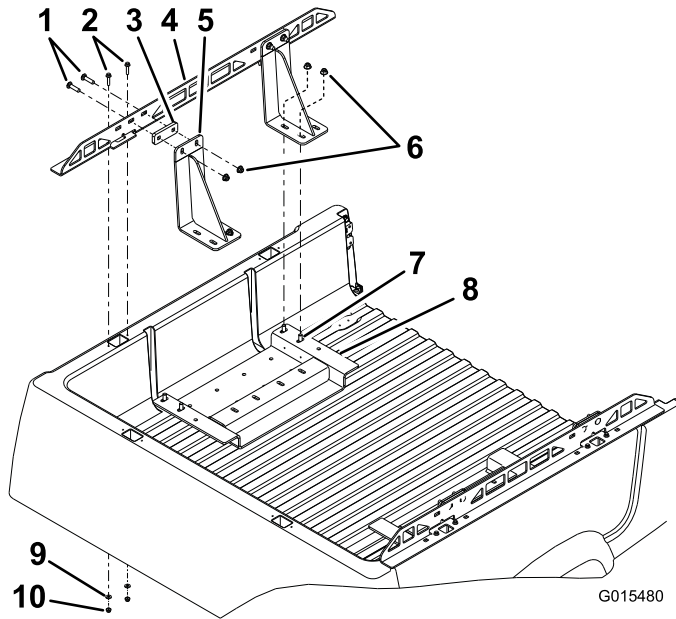

Figure 4
- For mid-duty vehicles 2011 and newer, install the bed rails to the side of the bed with 8 flange bolts (1/4 x 1-1/4 inches) and 4 flange nuts (1/4 inch) (Figure 4).
- Install the 4 bed stakes to the bed rails with 4 spacers, 8 carriage bolts (3/8 x 1-1/2 inches) and 8 flange nuts (3/8 inch) (Figure 4).
- Install the 4 bed stakes to the skid plates with 8 carriage bolts (3/8 x 1 inch), 8 carriage bolts (3/8 x 2 inches) and 8 flange nuts (3/8 inch) (Figure 4).